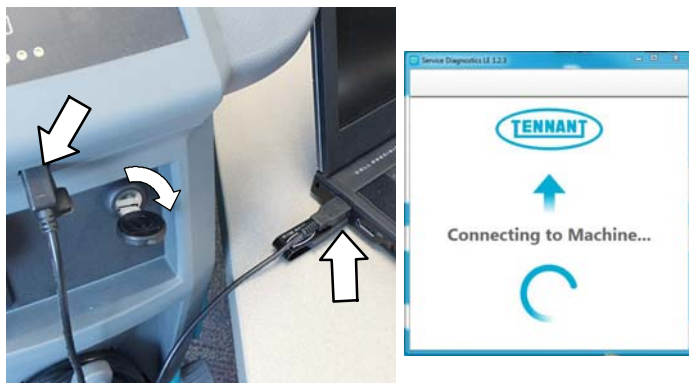

Fig. 6
4. Connect the USB cable, supplied with kit, to computer and to the USB port on machine as shown. Turn the key switch to the on position (Figure 6).
5. The application software will then connect to the machine (Figure 6). If the application remains on the "Connecting to Machine..." screen for an extended period, cycle key or reconnect USB cord. If it still fails to connect, restart software or computer.